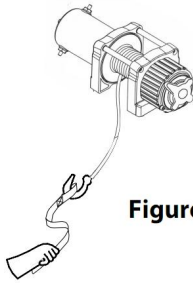

Figure 2
9. **ALWAYS USE THE HAND SAVER** When guiding the wire rope in or out.(See Figure 2).